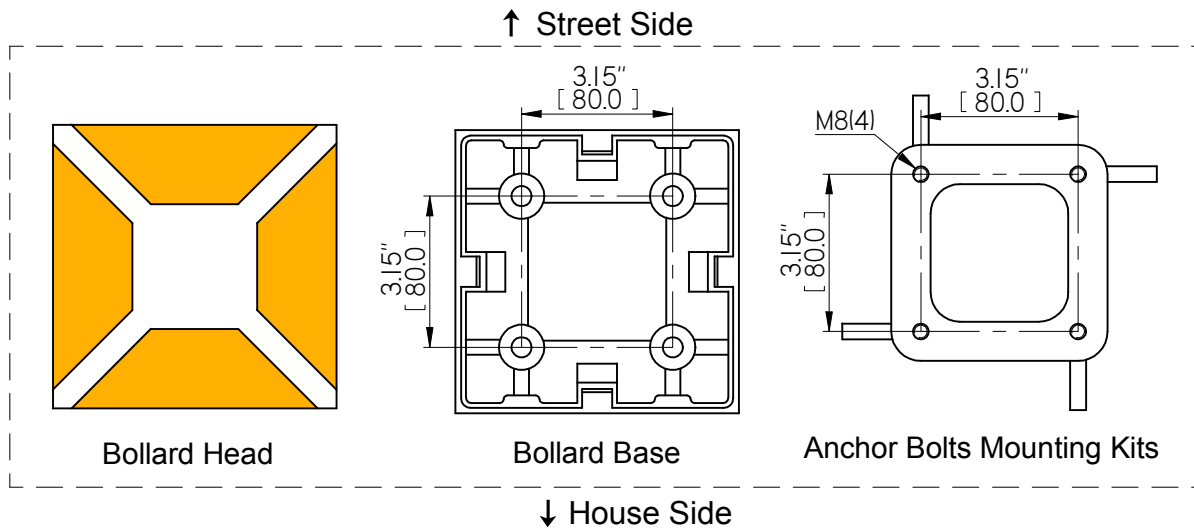

Figure 1
7. Slide the Bollard over on Bollard Base. Be sure to check the LED position on the Bollard. See Figure 1.